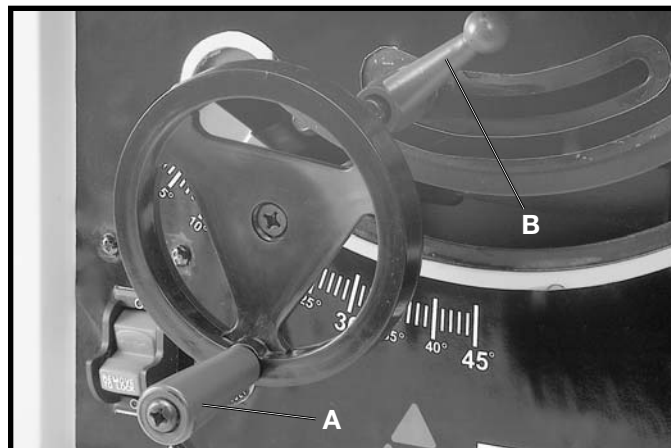

Fig. 26
To raise or lower the saw blade, turn handwheel (A) Fig. 26. Turning the handwheel clockwise lowers the blade and turning the handwheel counterclockwise raises the blade. **⚠WARNING: THE BLADE TILTING LOCK HANDLE (B) FIG. 26, MUST BE LOCKED DURING ALL CUTTING OPERATIONS.**